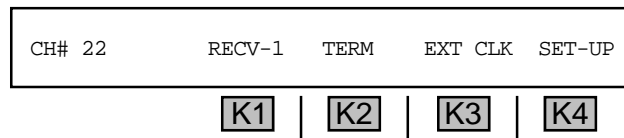

**Figure 4-2**
1. Connect the test cords as shown in **Figure 4-2**.